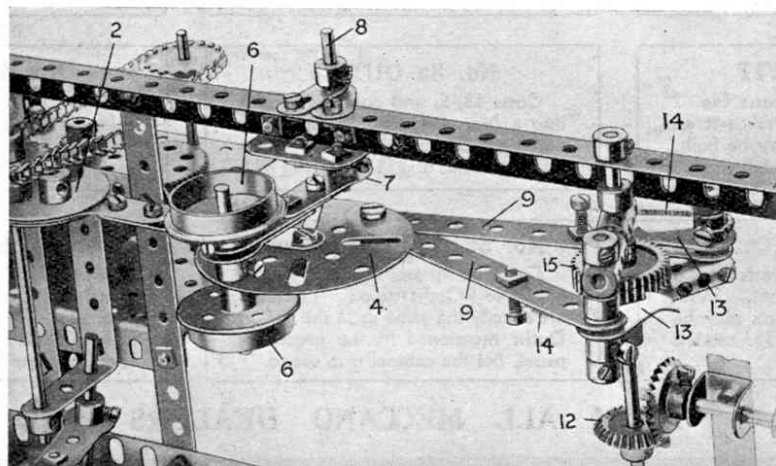

Fig. 5. Underneath View of Converter
are mounted on short rods secured in the outer holes of the coupling (shown more clearly in Fig. 5), these pawls, being controlled by short tension springs (14) so that they are kept in contact with a 1" gear wheel (15). When moving in one direction they trail idly over this gear wheel, but when moving in the other direction, they drive the gear wheel (15) and consequently the rod (11) to which the wheel is secured.